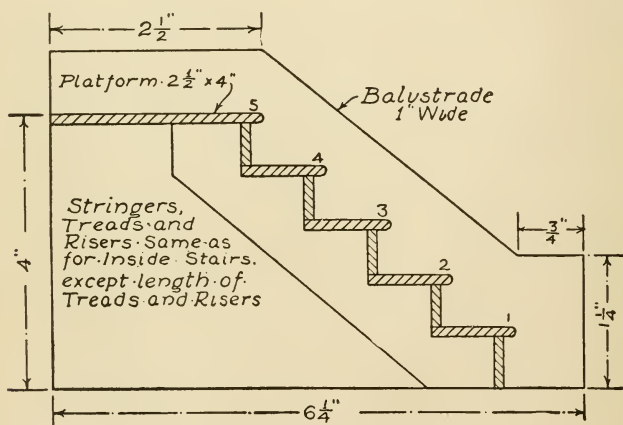

FIG. 76.—The Front Steps.
**The Front Steps** are made as shown in Fig. 76. Cut out two balustrades the shape and size shown in the drawing. Then prepare two stringers of five steps, cutting them exactly the same as for the other stairs,